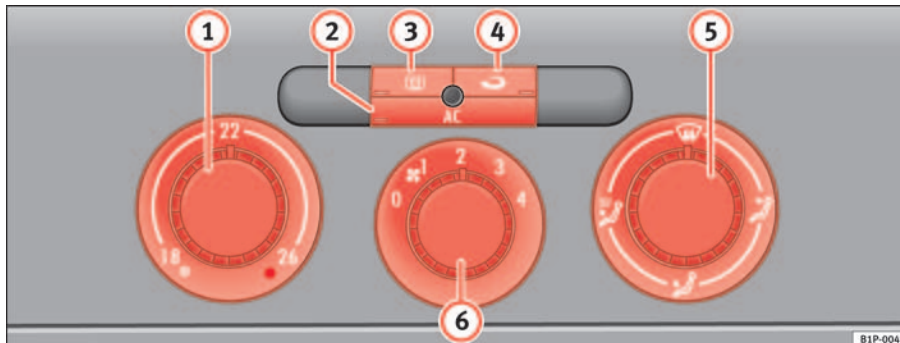

Fig. 105 On the dash panel: Climatic controls
- Turn the temperature selector ⇒ fig. 105 ① clockwise to select the required temperature.